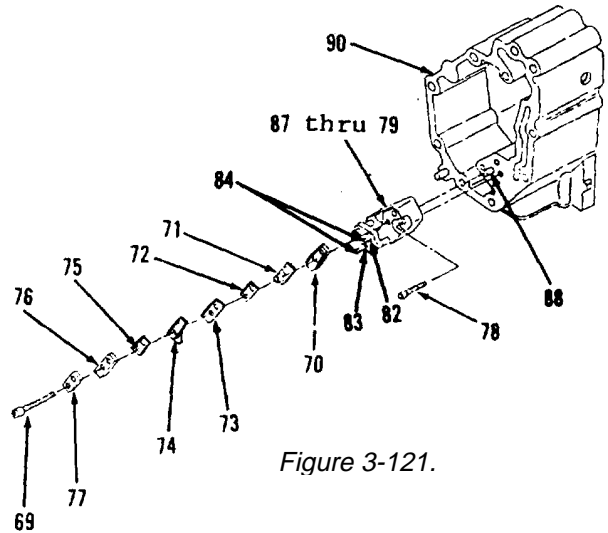

Figure 3-121.
9. Position items 87 thru 79 as an assembly on dowels (88) in housing (90, Figure 3-121).
10. Install two bolts (78).
11. Install retainer (77), bar (76), spacer (75), contact (74), spring (73), shim (72), insulator (71), bar (70) and two bolts (69).
13. Tighten two nuts (84).